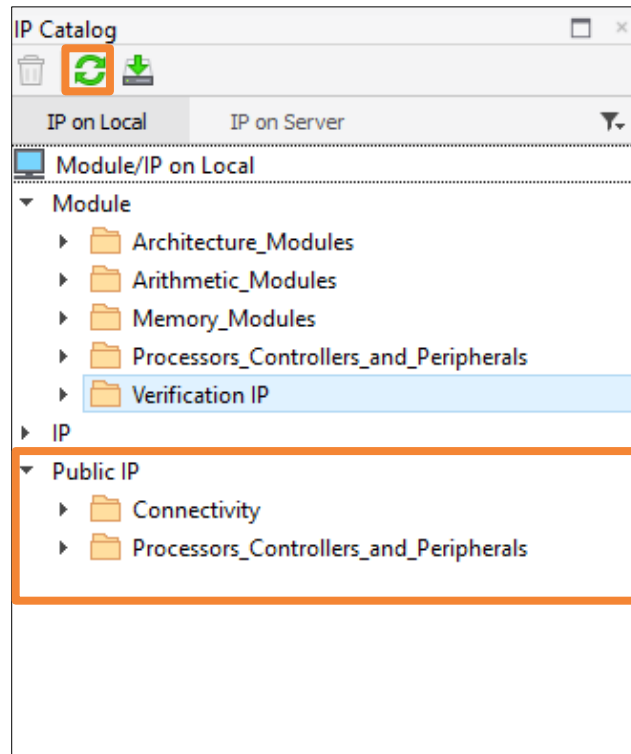

Figure 2.142. IP Catalog
- Set the IP Public Path, and then refresh **IP catalog** to get IP from this path (Figure 2.142).